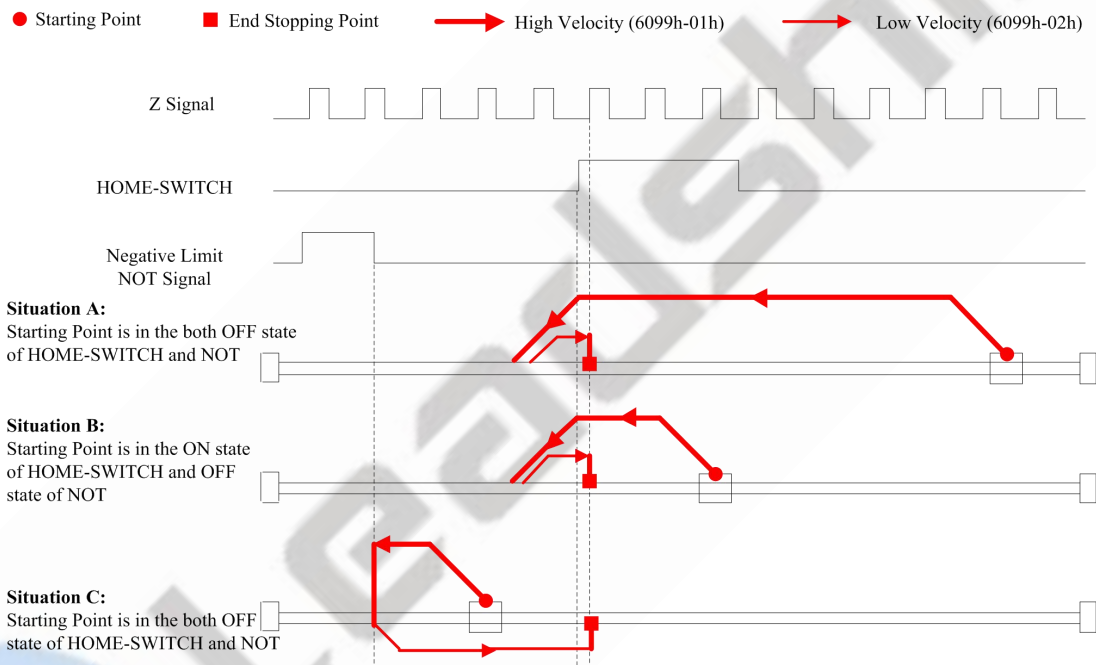

Figure 7-13 Method 13
- If the motor starting point is in the OFF state of HOME-SWITCH and Negative Limit, it will move toward negative direction at Fast Homing Velocity (6099-01h), and has a deceleration when leaving HOME-SWITCH, then moves toward positive direction at Low Homing Velocity, the motion stops at the first effective Z signal during the ON state of HOME-SWITCH, as shown in Situation A of Figure 7-13.
- If the motor starting point is in the OFF state of HOME-SWITCH and Negative Limit, it will move toward negative direction at Fast Homing Velocity (6099-01h) until the Negative Limit goes ON to have a quick stop, then moves toward positive direction at Low Homing Velocity, the motion stops at the first effective Z signal during the ON state of HOME-SWITCH, as shown in Situation C of Figure 7-13.